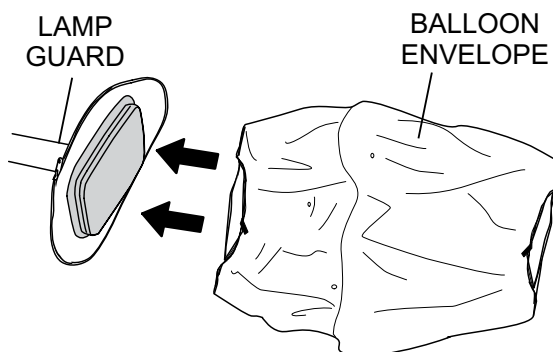

Figure 43. Installing New Balloon Envelope
3. Slide the new balloon (Figure 43) envelope over the top of the lamp guard assembly.